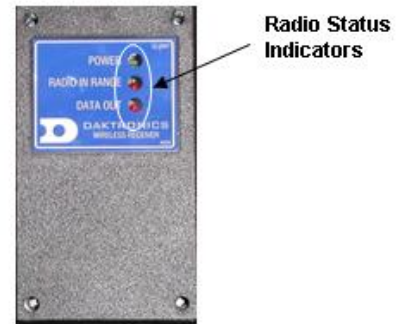

Figure 28: Radio Receiver w/ Cover
3. The radio receiver has a plastic cover (**Figure 28**).